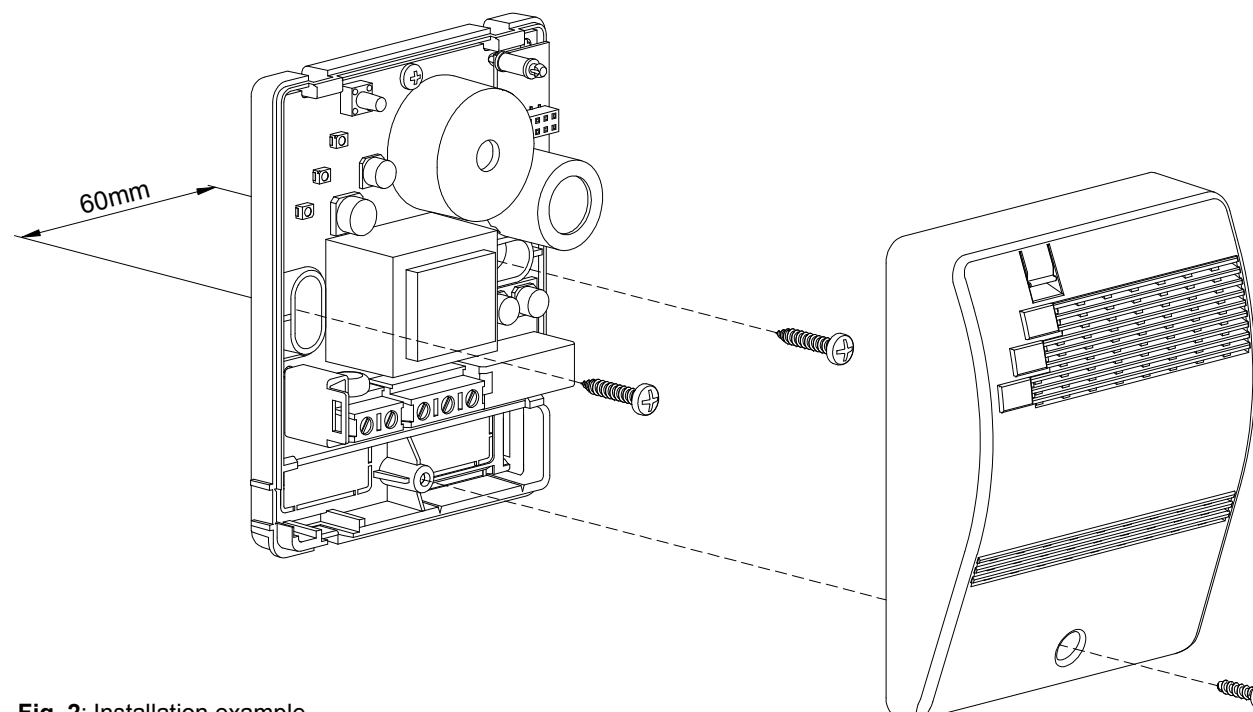

Fig. 2: Installation example.
3. Remove the detector's panel as shown in Fig. 2.
To access to the internal terminals, remove the front panel by loosening the screw (Fig. 2).